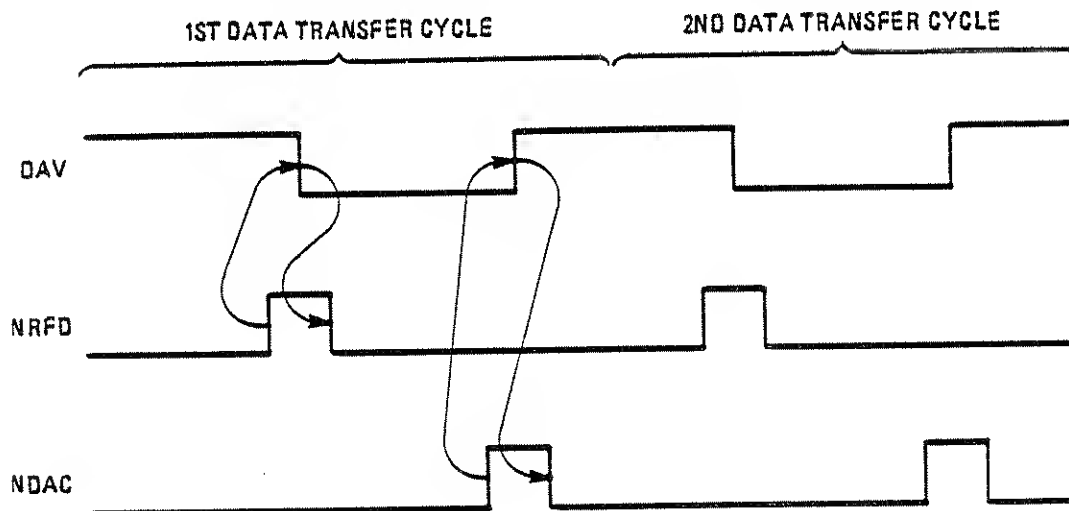
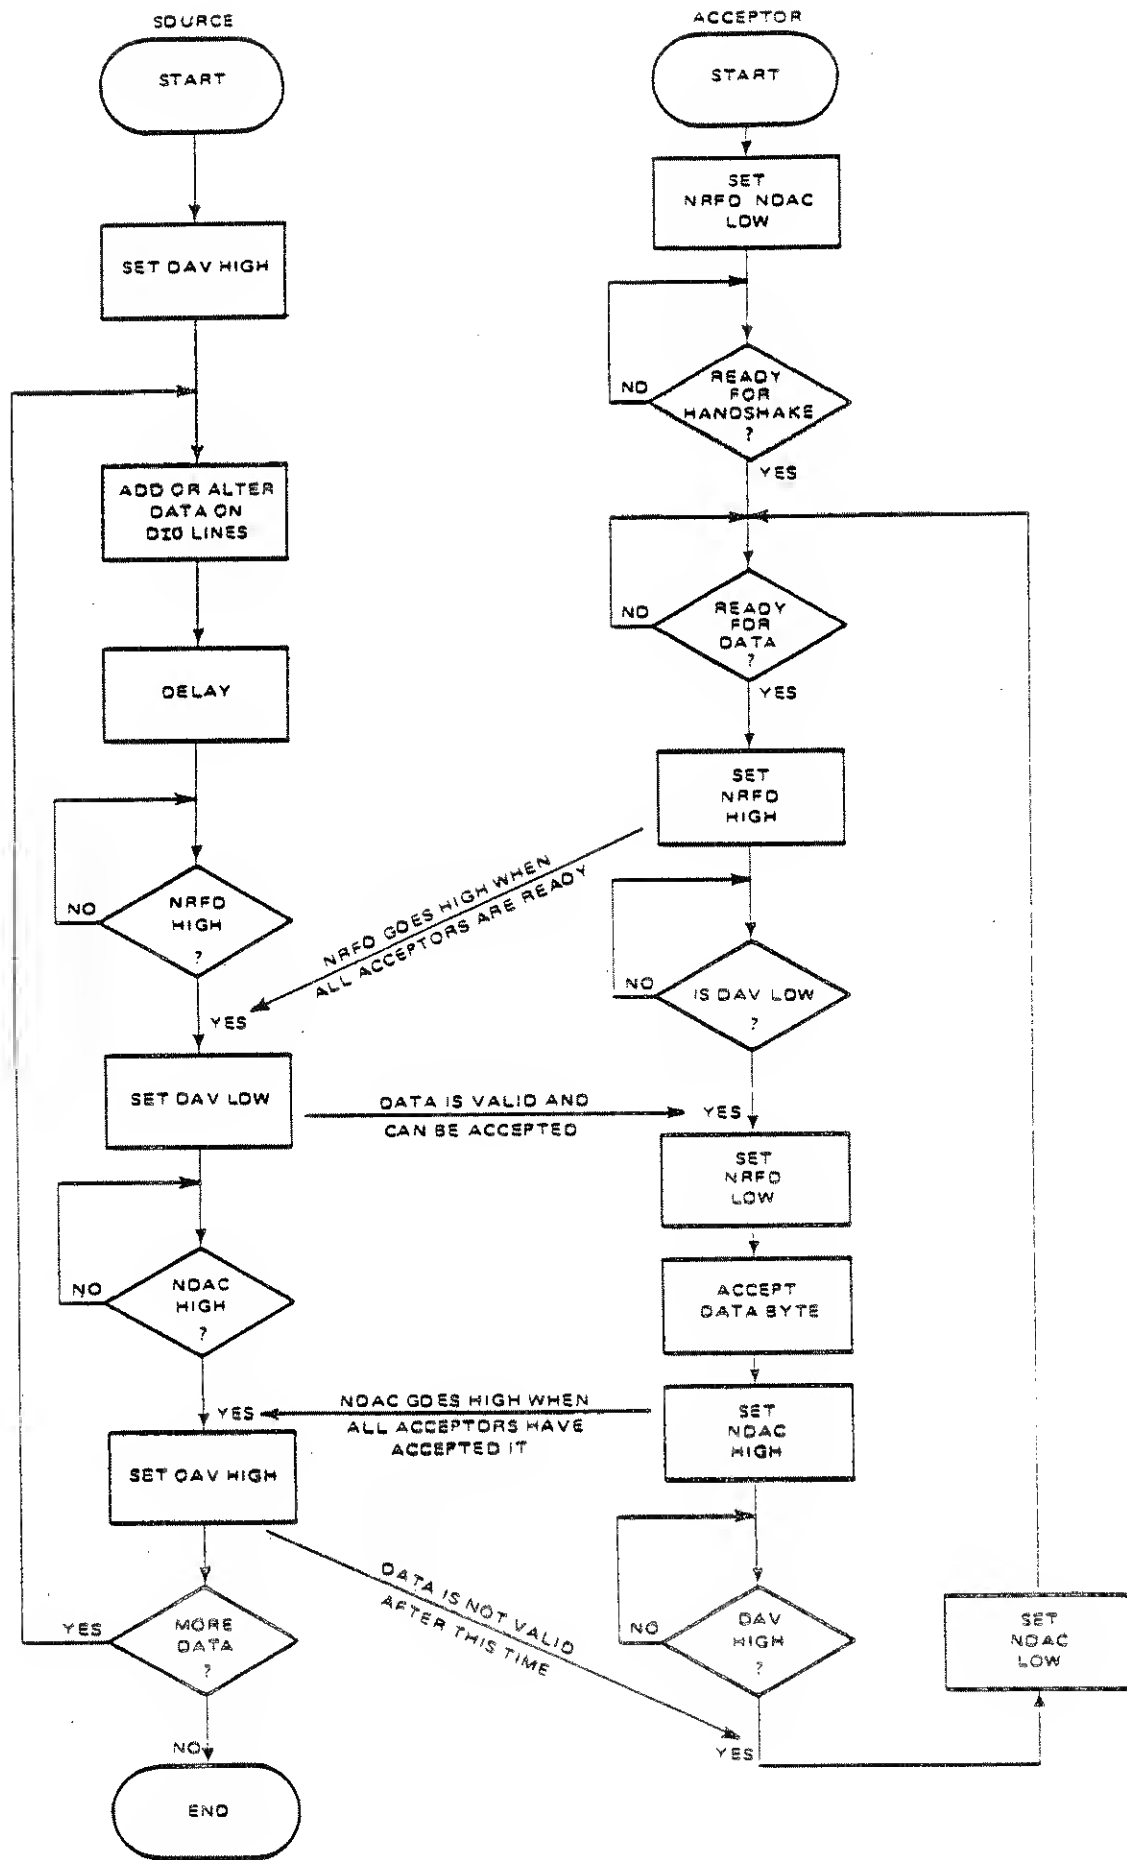

Figure 4.3 - Handshake Sequence
Figure 4.4 - Handshake Flow Chart
4.2.3.2 Refer to Figure 4.3. It shows the sequential relationship between the DAV, NRFD, and NDAC lines used to transfer data bytes. Figure 4.4 shows the handshake flow chart.